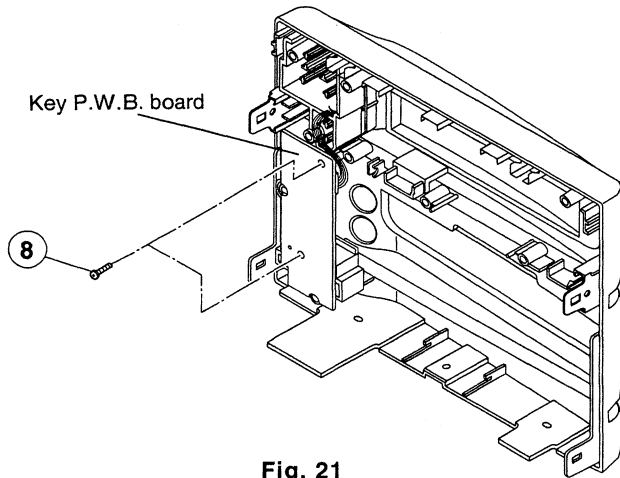

Fig. 21
- (1) Remove 6 screws ⑩ from the Display P.W.B. Board. Then remove the Display P.W.B. Board by releasing a hook on the front panel.
8. Removal of Key P.W.B. Board (Fig. 21)